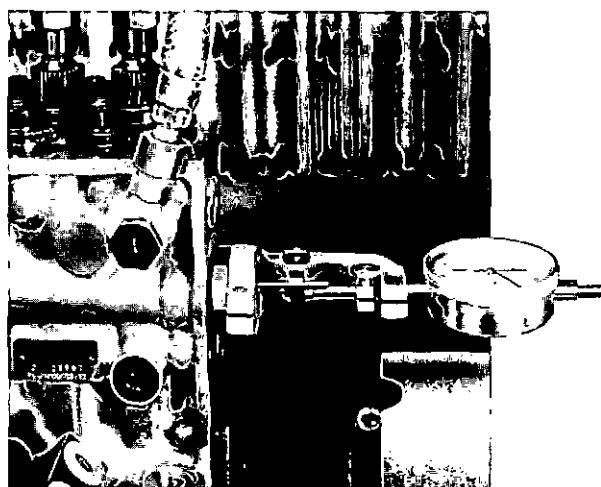

Fig. 58 Measuring rack travel.
- (ii) Remove the excess fuel device (or smoke stop, as applicable) and fit the rack travel measuring rig 1 688 130 030, together with its dial gauge 1 687 233 015, as shown in fig. 58. With the control rack in the STOP position, zero the dial gauge and tighten the clamping screws. Ensure that the rack can travel its full range of approximately 21 mm.